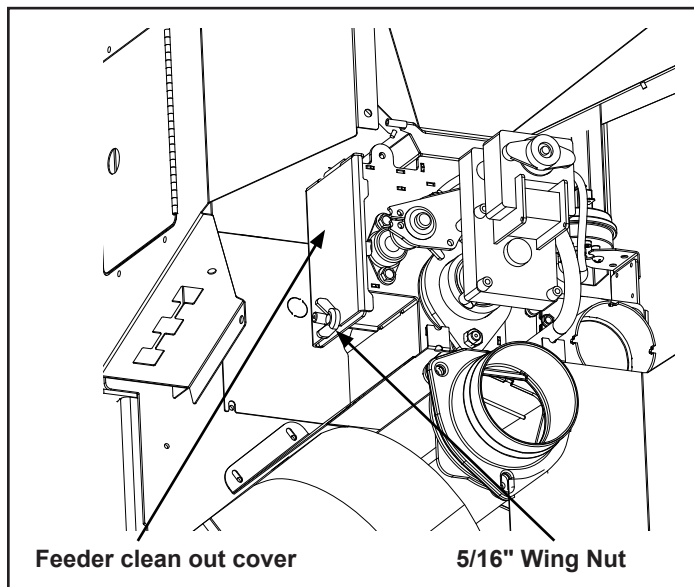

Figure 5.8
- Loosen the 5/16" wing nut. Figure 5.8.